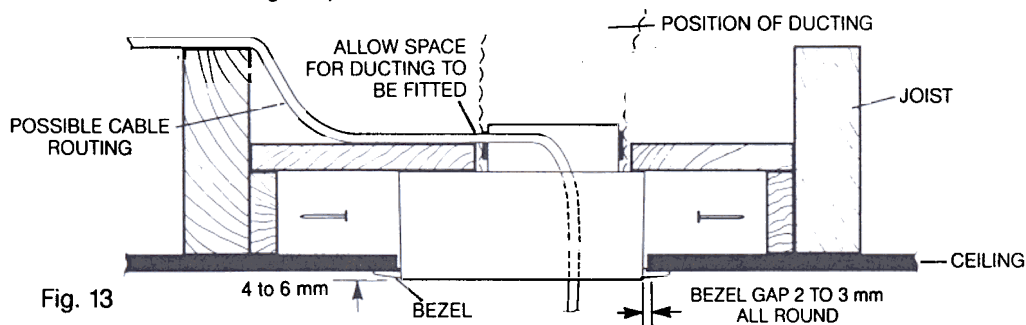

Fig. 13
8.1 Make a support to fit between the joists as shown (see Fig. 13). Mark the positions and sizes of the holes for the exhaust and cable entry and hole centres for fixing the backplate using the template provided, which must be broken out along the perforations of